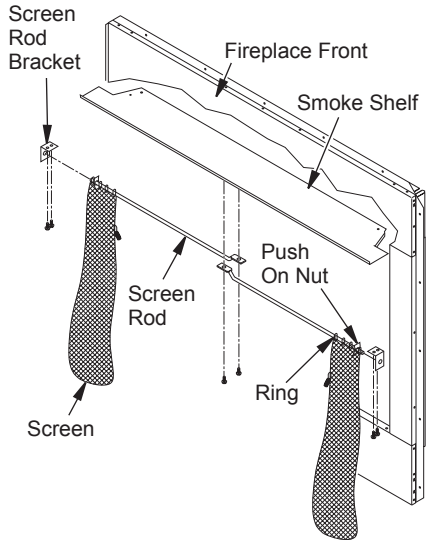

Figure 18 - Installing Fireplace Screen
2. Mount screen rod brackets on left and right side of smoke shelf with #8 x 1/2" screws provided (see Figure 18, page 29).
5. Mount flat end of screen rod with #10 x 5/8" to center of smoke shelf (see Figure 18).